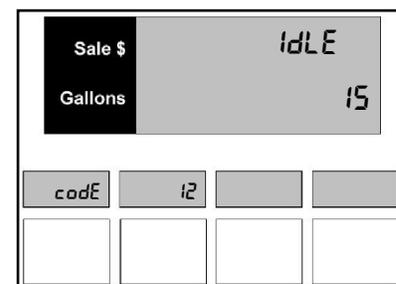

Figure 12.3 – Idle Timeout
6. To change the setting, use the **0** through **9** buttons on the keypad to enter a value in seconds as shown in *Figure 12.3*.